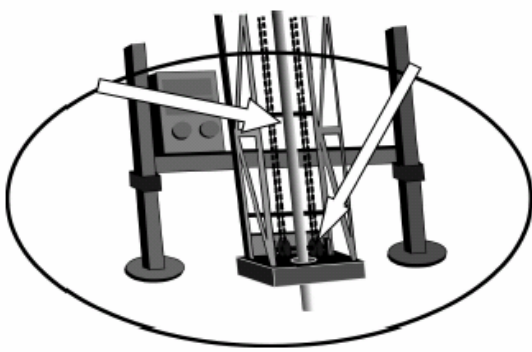

Figure 4. DANGER ZONE –
- ❖ **Danger Zones.** Diamonds North declares a **“Danger Zone”** around all hazardous areas of equipment and machinery at a drill site. Danger zones include all compressors and high pressure air hoses, sample discharge hoses, high pressure pumps, rotating drill rods, unguarded machinery and whenever drill rods are being handled or hoisted. (*see* Figures 4 and 5). All employees and visitors must be made aware of them. Discuss and point out all danger zones during the pre-program safety meeting at the drill and again whenever circumstances indicate a review is necessary. **NO ONE may enter a danger zone without a work-related reason.**
- ❖ The immediate area around rotating drill rods or augers is a “**Danger Zone**”, regardless of the drilling method (see Figure 4). Additional hazards (“drawing in”/ entanglement) within this danger zone include unguarded pull-down sprockets or sheaves.
Moving machine parts present a hazard that has the potential for entanglement, entrapment or crush injuries. Most “caught between” or “drawing-in” accidents involve drill rod handling, rotating drill rods, rod wrenches, rod clamp jaws, pull-down cables and sheaves or pull-down chains and sprockets (see Figure 4).